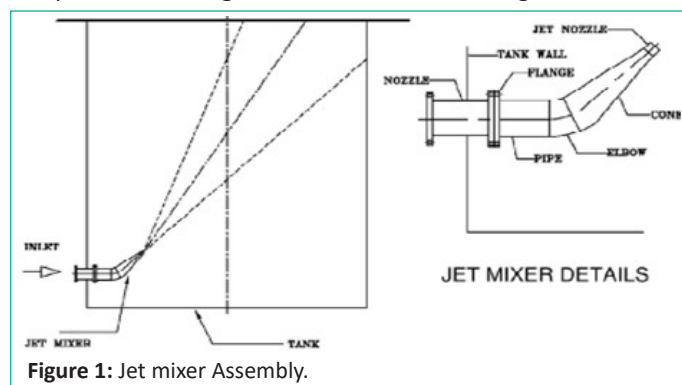

Figure 1: Jet mixer Assembly.
- Parts of Jet Mixer Assembly: Nozzle, Pipe, Elbow, Cone, Jet Nozzle (Below Figure 1)